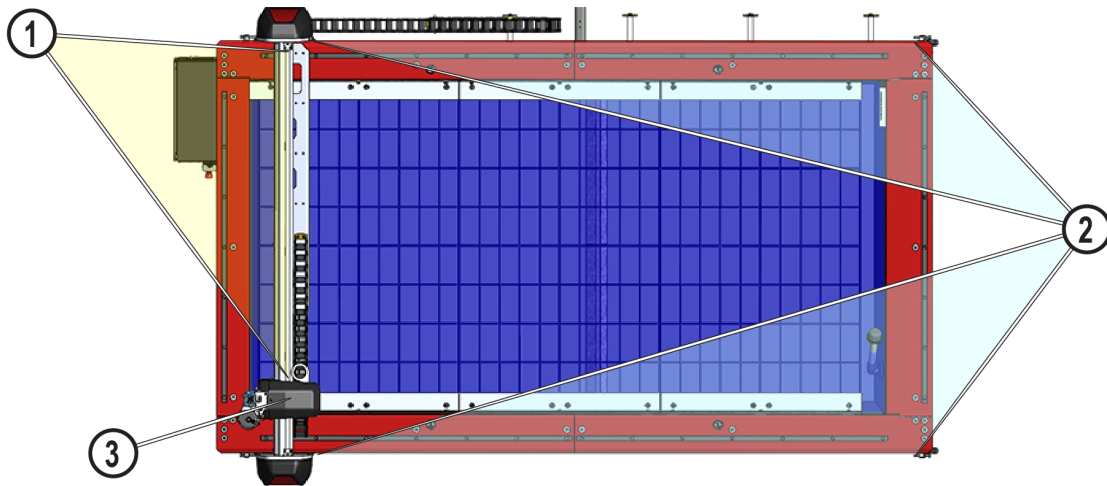

Figure 50
1. Move the **X-axis and Y-axis** [3] to one end of their travel range (Figure 50).